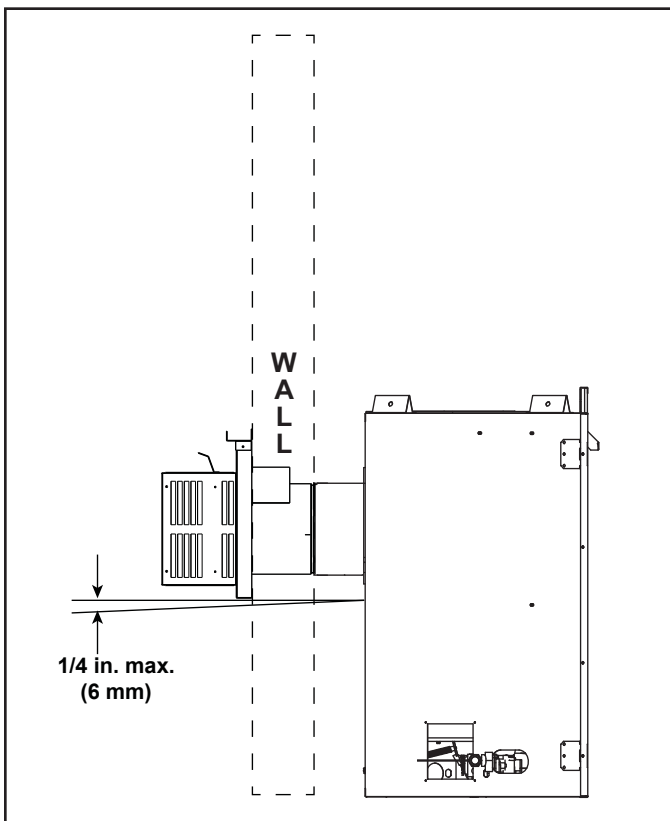

Figure 4.8 Water Infiltration Prevention
- When the horizontal termination cap is exposed to high precipitation, the cap should have a 1/4 inch downward slant to allow any moisture in cap to be released. See Figure 4.8.